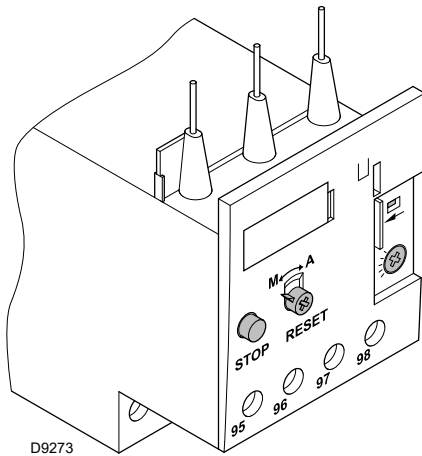

Fig. 24
The electro-mechanical terminal relay (Fig. 24) is used to avoid damage to the motor owing to a strong increase in absorption or the lack of a phase.
- To reset, in the case of an intervention of the thermal relay, press the button **"RESET"** (Fig. 24).
- The button **"STOP"** (Fig. 24) opens the NC (95-96) contact and stops the motor.